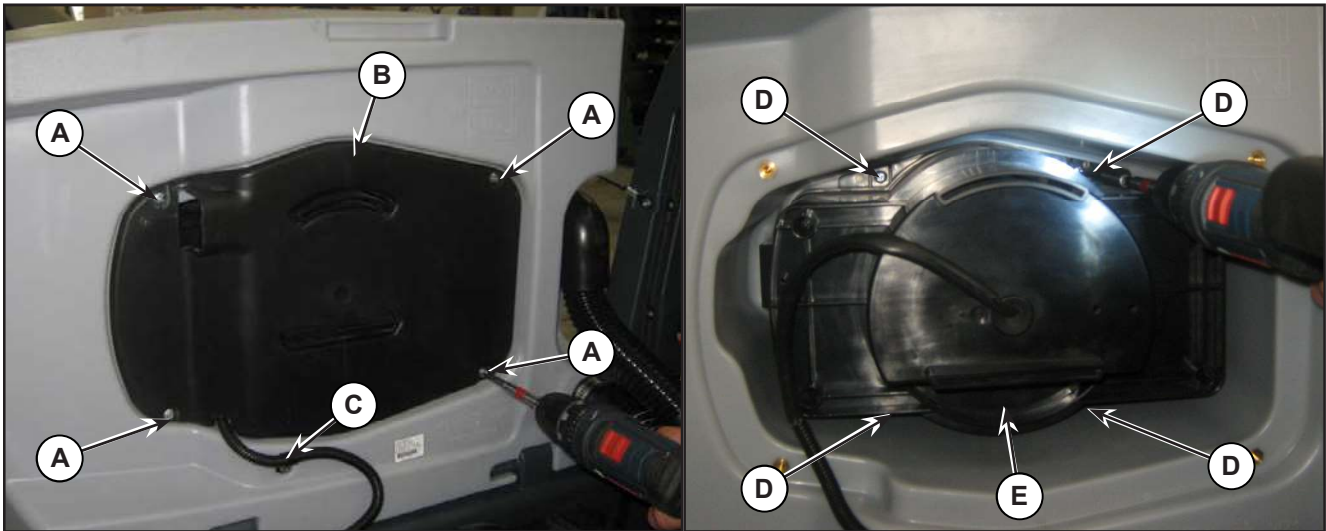

Figure 8:
4. Unscrew the 4 screws (A) (Figure 8) and remove the case (B).
5. Unscrew the screw (C) holding the vacuum motor wiring.
6. Unscrew the 4 screws (D) and remove the vacuum motor unit (E).